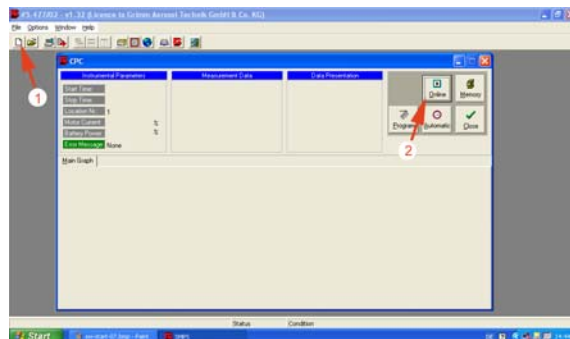

Fig.8: launching scans via the software
- new icon (step 1 in figure 8);
- name file and choose destination folder and click the START icon (step 2 in figure 8);